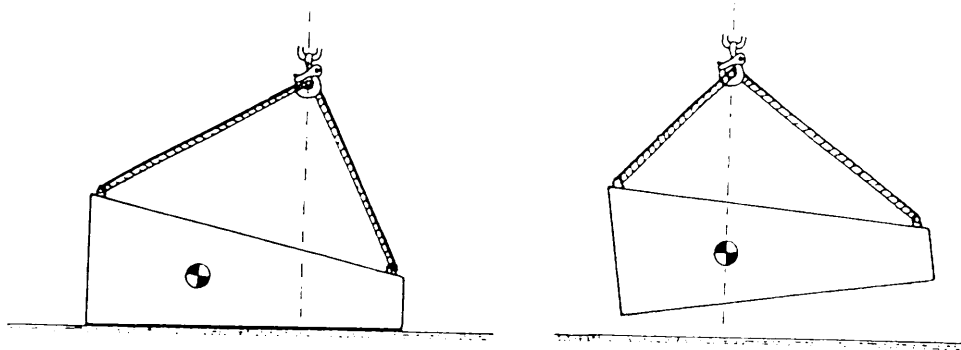

Figure 13-49.—Load shifting when Lifted.
17. Center of balance. Stability of the load is important in the rigging process. A stable load is a load in which the center of balance of the load is directly below the hook, as shown in figure 13-49. When a load is suspended, it will always shift to that position below the hook. To rig a stable load, establish the center of balance (C/B). Once you have done this, simply swing the hook over the C/B and select the length of sling needed from the hook to the lifting point of the load.